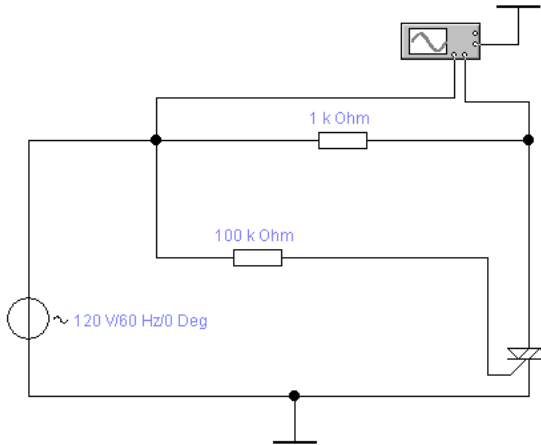

Figure 7.3 – The simister research
- 1 Draw a schematic diagram of Fig. 7.3.